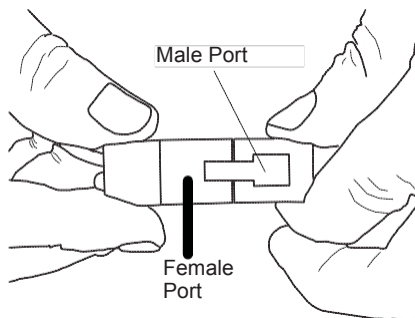

Figure 5 - Connecting Blower Wire to Wire Connector
5. Insert the blower connector (male port) into the female port on the wire connector. This protects the jacket in the fireplace (see Figure 5).